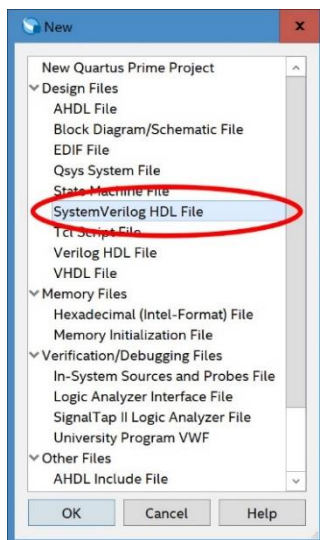

Figure 1: Creating a new Verilog file in Quartus
- 2) **Create a SystemVerilog file.** Go to File→New, select “SystemVerilog HDL File”, and hit “OK” (Figure 1). You will do this whenever you want to create a new Verilog file.